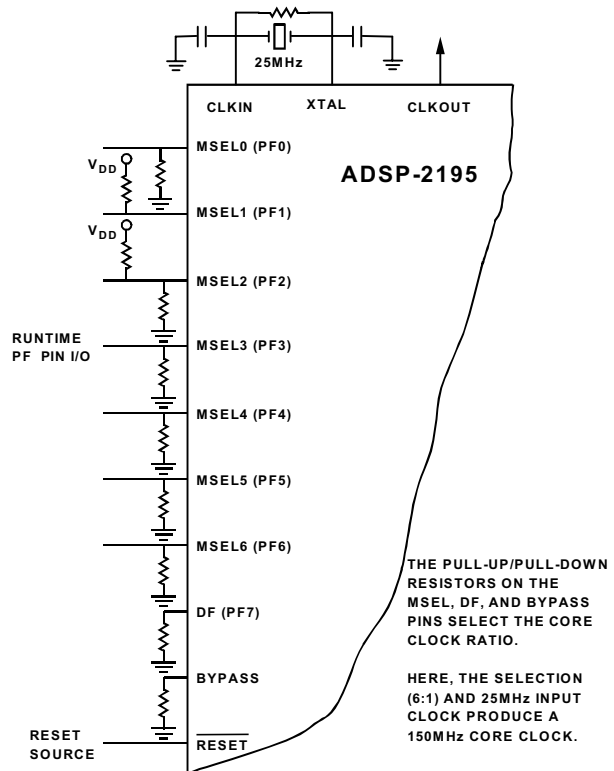

Figure 6. External Crystal Connections
The ADSP-2195 can be clocked by a crystal oscillator or a buffered, shaped clock derived from an external clock oscillator. If a crystal oscillator is used, the crystal should be connected across the CLKIN and XTAL pins, with two capacitors connected as shown in Figure 6. Capacitor values are dependent on crystal type and should be specified by the crystal manufacturer. A parallel-resonant, fundamental frequency, microprocessor-grade crystal should be used for this configuration.
The DSP provides a user-programmable $1\times$ to $32\times$ multiplication of the input clock, including some fractional values, to support 128 external to internal (DSP core) clock ratios. The MSEL6–0, BYPASS, and DF pins decide the PLL multiplication factor at reset. At runtime, the multiplication factor can be controlled in software. To support input clocks greater than 100 MHz, the PLL uses an additional input: the Divide Frequency (DF) pin. If the input clock is greater than 100 MHz, DF must be high. If the input clock is less than 100 MHz, DF must be low. The combination of pullup and pull-down resistors in Figure 6 set up a core clock ratio of 6:1, which produces a 150 MHz core clock from the 25 MHz input. For other clock multiplier settings, see the *ADSP-219x/2191 DSP Hardware Reference*.